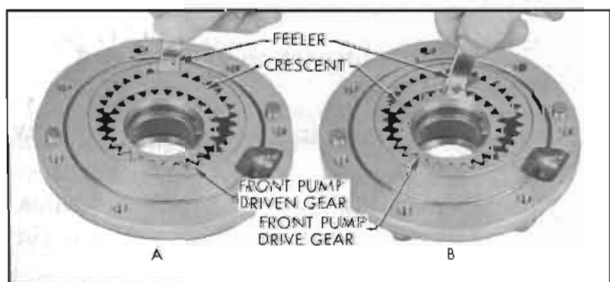

Figure 5-75—Checking Clearance Between Crescent and Gears
driven gear to check clearance, which should be .005" to .009" on front pump and .0045" to .007" on rear pump. See Figure 5-75, view A.
8. Insert feeler gauge between crescent and driving gear to check clearance, which should be .010" to .016" on front pump and .006" to .012" on rear pump. See figure 5-75, view B.
3. Lubricate and install gears in front pump body. The driving gear must be installed with the beveled side outward so that this side will be against the cover when pump is installed. See figure 5-75. *Reversing this gear in pump body will result in severe damage to the transmission.*